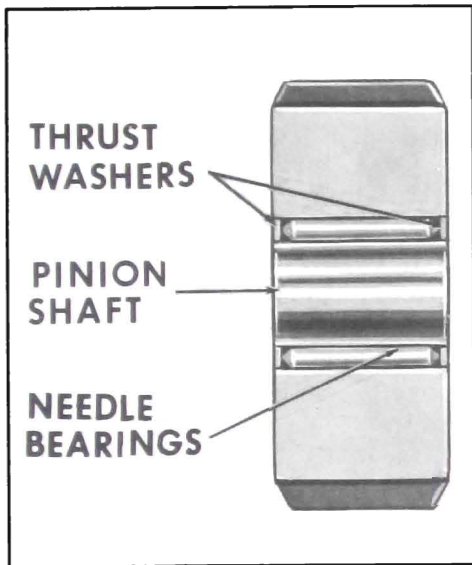

Figure 5-248
5. Remove needle bearings, and thrust washers (2) from the short planet pinion gear. See Figure 5-248.